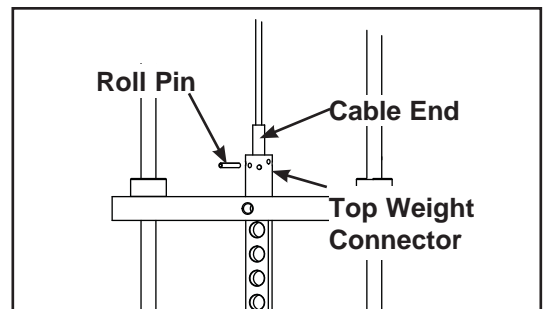

Figure 8
- 3. Roll Pin Adjustment** - This type of adjustment utilizes a roll pin and series of holes in the weight stack top weight connector. See Figure 8.